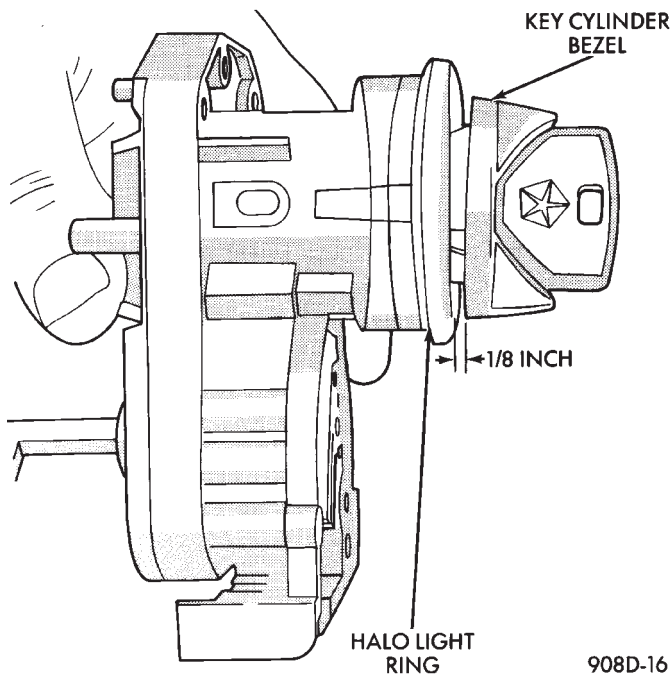

Fig. 4 Unseated Key Cylinder
- (b) Rotate the key clockwise to the OFF position. The key cylinder should now be unseated from the ignition switch assembly (Fig. 4).